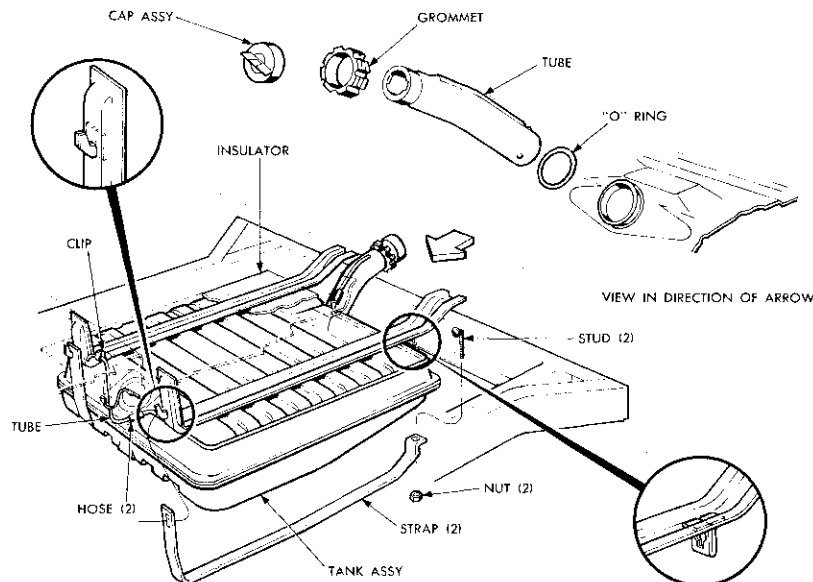

Fig. 43—Fuel Tank Mounting (Imperial)
(5) Guide the button head of the studs into the slots in the frame and down into position. Tighten the hold down strap attaching nuts securely.
(6) Slide the vent tube hose over the end of the vent tube. Connect the lead wire to the tank gauge unit and reconnect the fuel line.
(7) Refill the tank and check for leaks.
27. FUEL TANK (Imperial) (Fig. 43)
(1) Drain the tank, then disconnect the fuel line and the lead wire to the gauge unit.
(2) Disengage the vent tube from the vent tube hose. (Refer to Fig. 43.)
(3) Using Tool C-3584, hooked into the filler tube cap opening, pull the filler tube out of the fuel tank. As filler tube is being removed, the vent tube on the filler tube will pull out of the connector hose. (Refer to Fig. 43.) Slide grommet off filler tube.
(4) Loosen the nuts that hold the ends of the fuel tank hold down straps until the button head studs can be disengaged from the floor pan brackets. Disengage studs from brackets and at the same time support the tank. Drop the tank straight down and out from under car.
(5) Remove the gauge tank unit, using spanner wrench Tool C-3582.
(4) Slide grommet over the filler tube, then insert filler tube through opening in rear panel. (Be sure the vent tube is up and engages the rubber hose connection.)
(5) Push the filler tube down until the tube is aligned with the tank neck opening. Using a rubber hammer, drive the tube into the seal ring until the dimples on the tube seat on the shoulder of the seal retainer. (Check to see that the vent tube has entered the hose correctly.)
(6) Connect the vent tube on the forward end of the tank with the rubber hose and vent tube mounted on the floor pan. Be sure the end of the tube is open. (Refer to Fig. 43.)
(7) Tighten the tank hold down strap attaching nuts securely. Connect the fuel line to the tank and wire lead to the tank unit.
(8) Refill the tank and check for leaks.